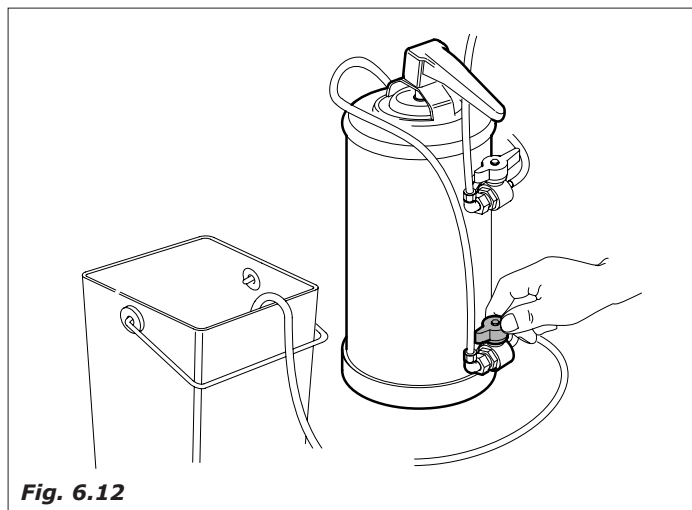

Fig. 6.12
- turn the lower faucet being careful to put the relative hose in a bucket or better in a drain (Fig. 6.12).